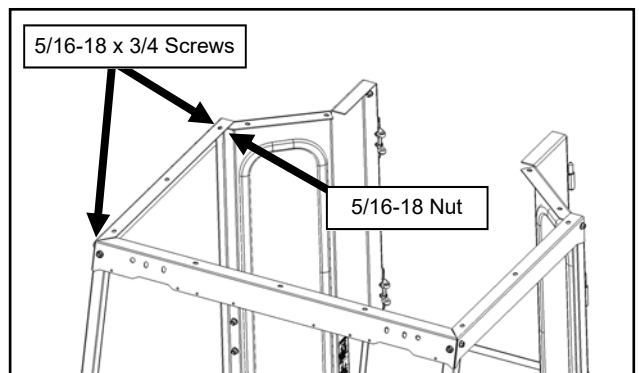

Fig. 10.2 (Install Right Door Header)
- 10.2** Repeat step 10.1 with the right door header. See Figure 10.2.